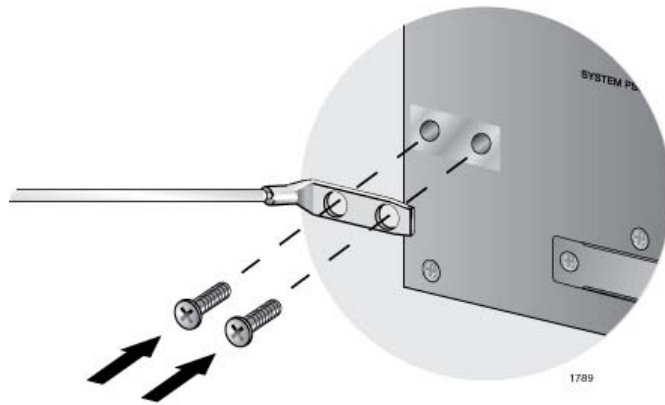

Figure 50. Installing the Grounding Lug and Wire
4. Install the grounding lug on the chassis, as shown in Figure 50. Allied Telesis recommends tightening the screws to 20 inch-lbs.